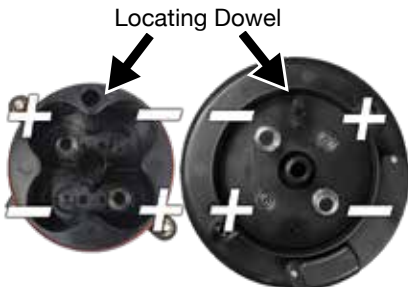

Figure 2a
3. Fountain requires 4 D batteries (Not Included), insert x2 D Batteries with the negative (-) side facing down in Battery Compartment (Figure 2a). The negative side of the battery will be resting on the raised coil/spring. Then insert the other 2x D Batteries with the positive (+) side facing down in the Battery Compartment. (Figure 2a).
4. Reinstall the Fountain Top by aligning the locating dowel in the Battery Compartment and Fountain Top. Set the Battery Cover down onto the Battery Compartment ensuring the dowel sets into the alignment hole. Apply pressure and tighten the Battery Cover Screws by turning clockwise. NOTE: Pressure must be applied to the Battery Compartment while tightening the screws to assure the compartment is properly sealed. If needed, while holding battery compartment, place it upside down on an even surface to tighten screws (Figure 2a, 2b & 2c).